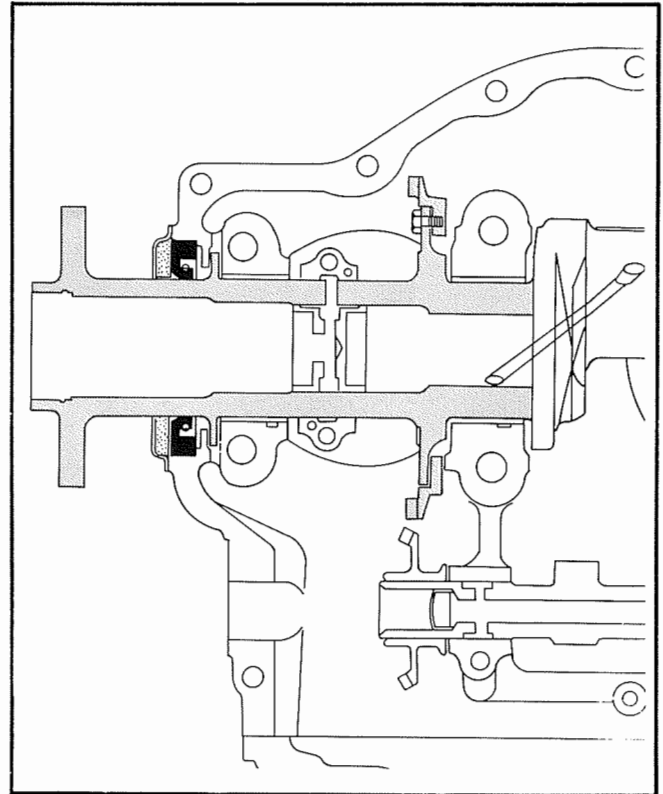

Figure 7-2. Alternator Drive Gear Installed
b. Heat gear (28) in oven at 300° F. for half hour or more and install on crankshaft (See figure 7-2). Secure with four bolts (27).